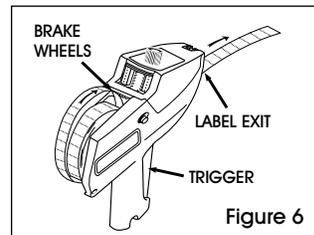

Figure 6
4. Squeeze and hold the trigger while feeding the label strip into the slot below the brake wheels until about 6 inches come out of the front. (See Figure 6)